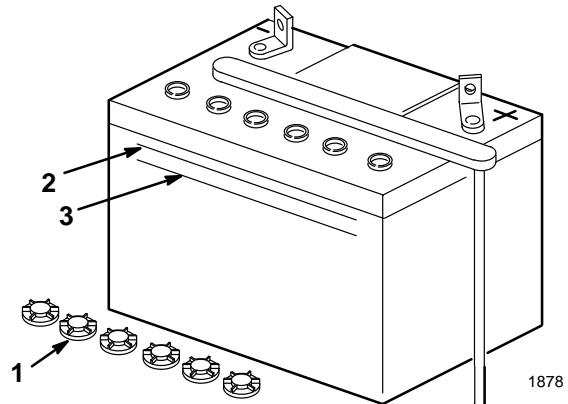

Figure 23
2. Look at the side of the battery. The electrolyte must be up to the “UPPER” line (Fig. 23). Do not allow the electrolyte to get below the “LOWER” line (Fig. 23).
2. Unscrew the filler caps (Fig. 23).
3. Slowly pour distilled water into each battery cell until the level is up to the “UPPER” line (Fig. 23) on the battery case.